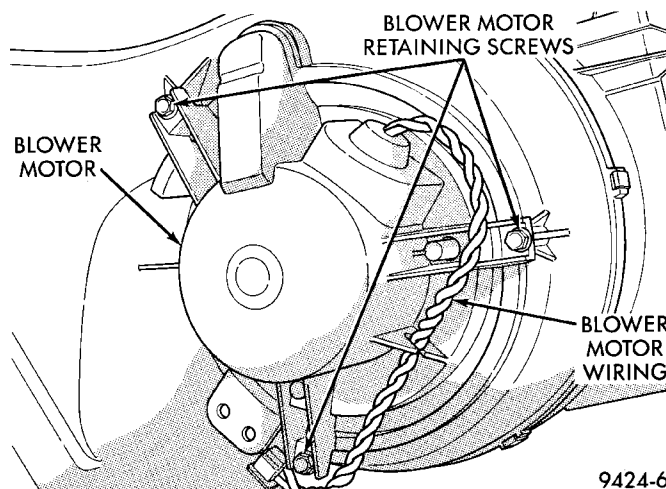

Fig. 21 Blower Motor Retaining Screws
- (1) Remove right side scuff plate.
- (2) Pull back carpet.
- (3) Cut wheel housing silencer in line with blower motor wiring.
- (4) Disconnect blower motor wiring connector.
- (5) RHD vehicle remove the motor cover.
- (6) Remove three blower motor retaining screws (Fig. 21).
- (7) Lower blower motor assembly from unit housing.